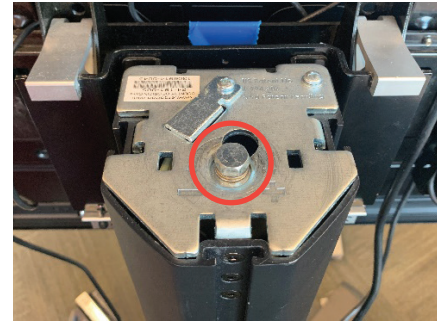

Figure 10 - Monitor stand tension bolt
- When the monitor is the desired height, the other person will then tighten the tension bolt, circled in red in Figure 10, using an adjustable wrench.